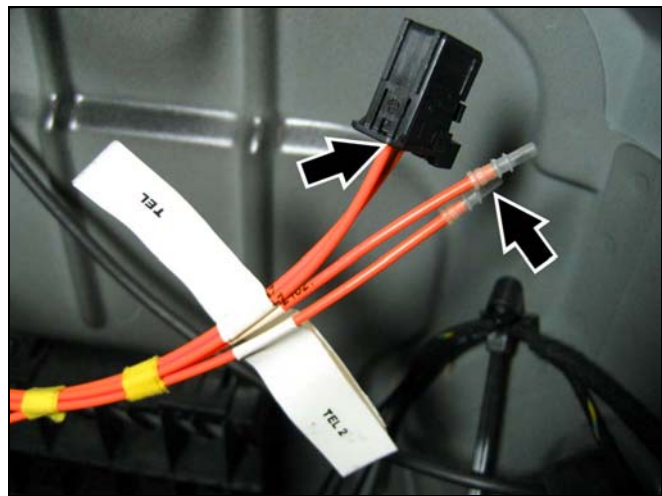

Figure 18
- At the telephone control module (Figure 18) in the right well of the trunk, configure the MOST ring according to Figure 39.